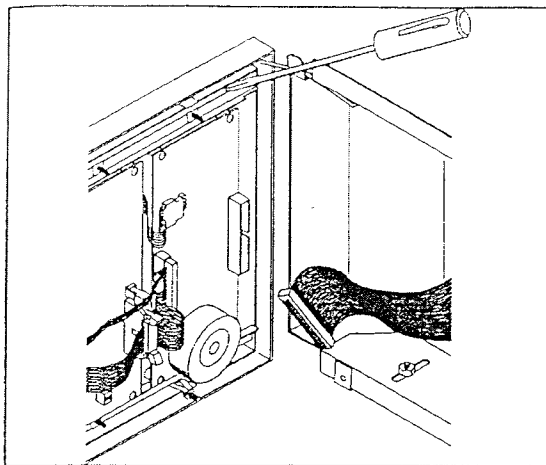

Figure 16 – Removing Module
- 4.2.11.2.1 Pop the modules and the retaining angle brackets out of the frame (see Figure 16)